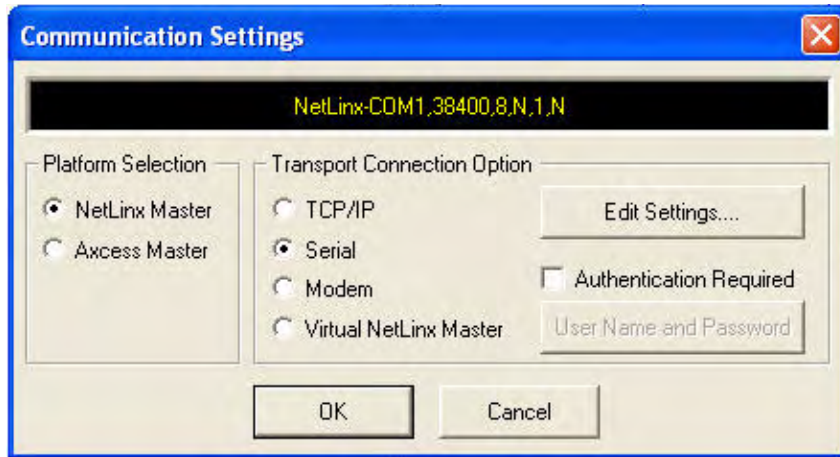

FIG. 38 Communications Settings dialog box
3. Click the **Communications Settings** button to open the *Communications Settings* dialog (FIG. 38).